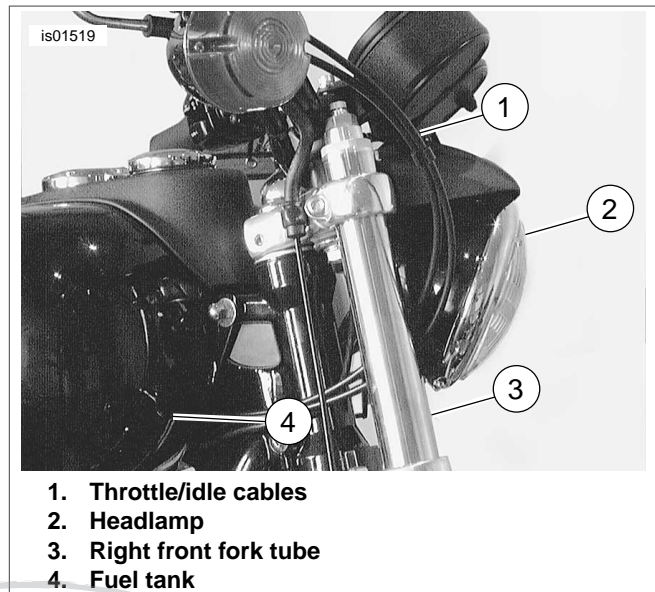

Figure 8. Cable Routing (1996 - 2005 Dyna, Except FXDWG)
1. **1996-2005 FXD, FXDL, FXDX, FXDS Models:** See Figure 8. Route throttle and idle cables between headlamp and right front fork tube, then under right side of tank to carburetor/induction module.